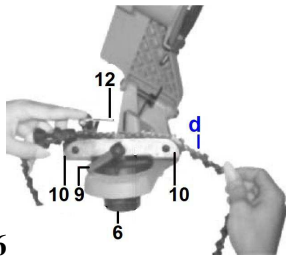

Fig.6
4.6.1- Installing the chain (Fig.6)
Set the top rotary table (8) angle by means of the setting wheel (6) (see Fig.6).